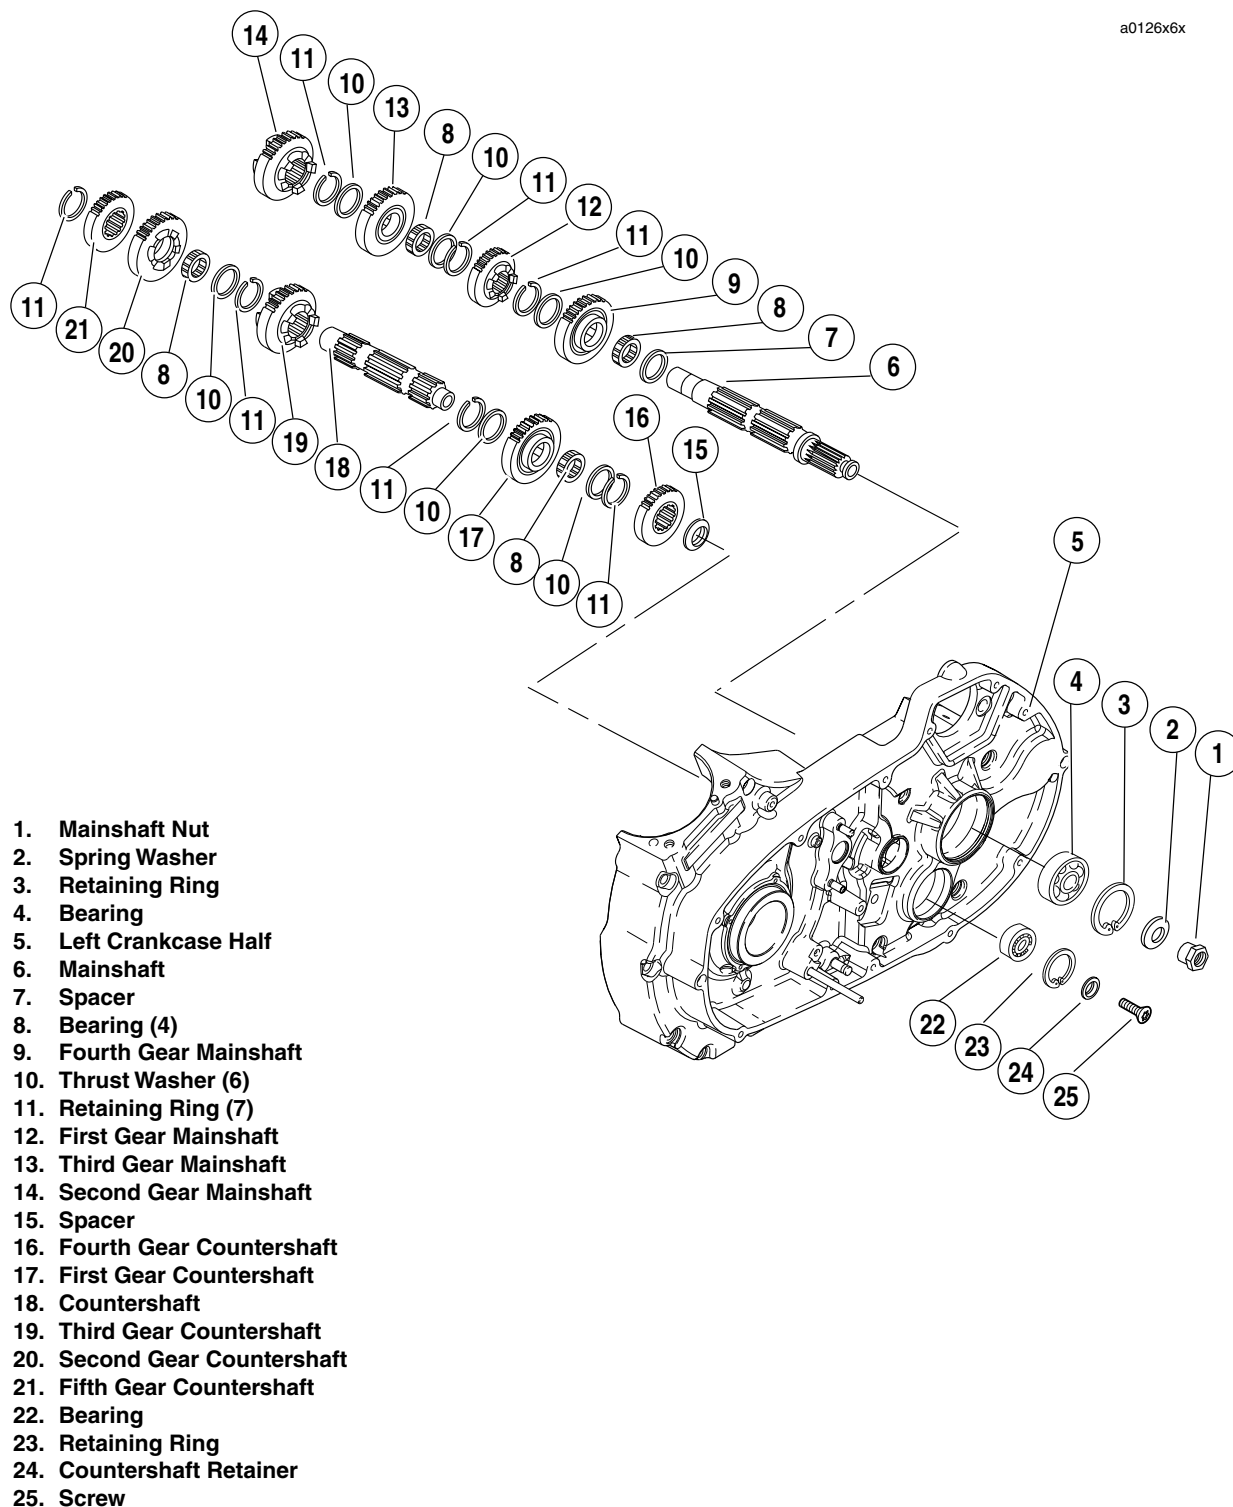

Figure 6-42. Transmission Assembly Left Crankcase Half
1. See Figure 6-42. Install new retaining ring (11) and thrust washer (10) onto mainshaft (6) in the first ring groove from the end.
2. Install split bearing (8) onto mainshaft.
3. Locate mainshaft 4th gear (9), which can be identified by the two radial grooves at one side. Slide gear (9) onto shaft. Position gear over bearing (8) next to spacer (7).
4. Place spacer (7) over mainshaft and position next to split bearing (8).
5. Slide mainshaft 1st gear (12) onto mainshaft with the fork groove facing 4th gear (9).
6. Install thrust washer (10) and new retaining ring (11) next to mainshaft 1st gear (12).
1. See Figure 6-42. Install new retaining ring (11) and thrust washer (10) onto countershaft (18) in the second ring groove from the end.
2. Install split bearing (8) onto countershaft.
3. Locate countershaft 1st gear (17), which can be identified by the two radial grooves at one side. Slide gear (17) onto shaft. Position gear over bearing (8).
4. Install thrust washer (10) and new retaining ring (11) next to gear (17).
5. Locate countershaft 4th gear (16). This flat, shoulderless gear is splined and has a single radial groove at one side. Position gear next to retaining ring (11) on countershaft. Place beveled washer (spacer) (15) over end of shaft with beveled side away from countershaft 4th gear (16).
6. Install countershaft 3rd gear (19) on countershaft with fork groove facing away from countershaft 1st gear (17).
7. Install new retaining ring (11) on countershaft. Position new retaining ring in the second ring groove from the end. Install thrust washer (10) next to retaining ring (11). Install split bearing (8) in seat next to washer (10).